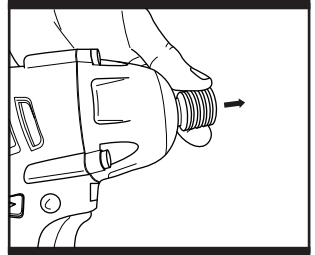

Fig. 4
3. BIT REPLACEMENT (Fig. 4 & 5)